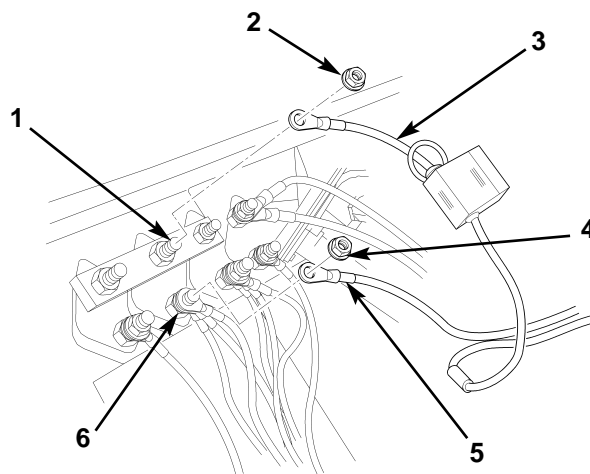

Figure 8. Disconnecting Harness Leads from Circuit Breaker.
16. Remove nut (figure 8, item 2) and orange wire (figure 8, item 3) from CB#3, circuit 12C, terminal stud (figure 8, item 1).
17. Remove nut (figure 8, item 4) and blue wire (figure 8, item 5) from CB#3, circuit 38, terminal stud (figure 8, item 6).